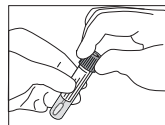

Fig 4
4. Replace the cap on the tube and close tightly (Fig. 4).